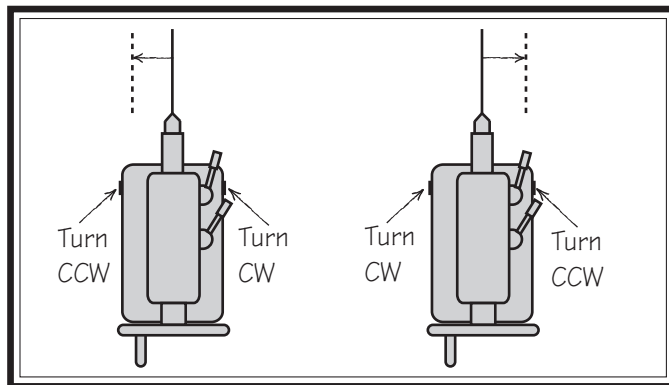

Figure 45. Set screw adjustment in relation to tailstock movement.
2. Rotate the adjustment set screws in opposite directions for the desired offset (see the illustration in **Figure 45**).